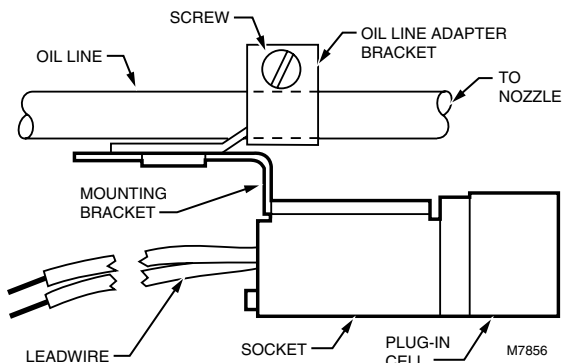

Fig. 5. Use oil line adapter bracket to mount C554A on to oil line.
- Mount the oil line adapter bracket on the oil line using the screw and nut provided (Fig. 5).